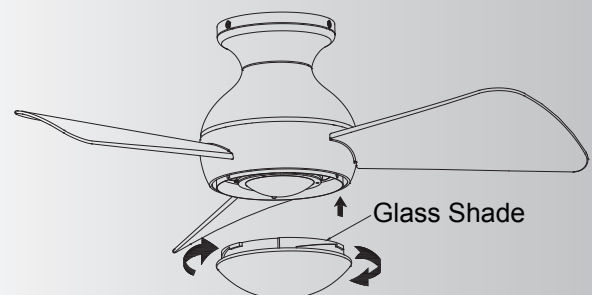

Fig. 15b
Step 8. Secure the glass shade to switch housing by twisting in a clockwise direction. Do not over-tighten. (Fig. 15b)